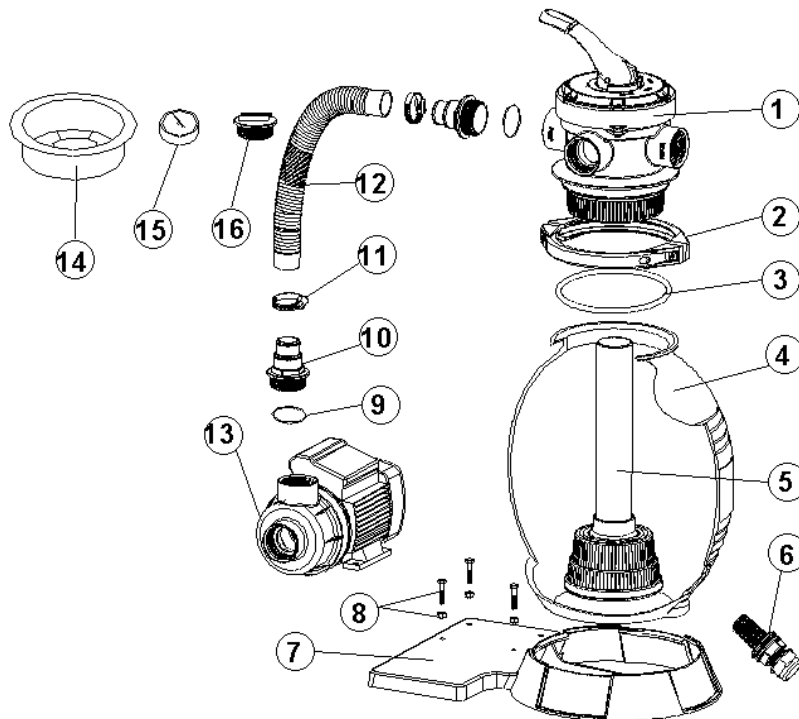

Fig. 8
Check and clean the tube with filter basket (fig. 8, No. 5) in the sand filter tank (fig. 8) **in regular intervals.**
1. Remove the lid with 4 position valve (fig. 8, No. 1) and take out the tube with filter basket (fig. 8, No. 5).
3. Do the assembly in reverse order. Check the sealing of the lid (fig. 8, No. 3). Replace damaged sealings immediately.
4. Insert the tube with the filter basked (fig. 8, No. 5).